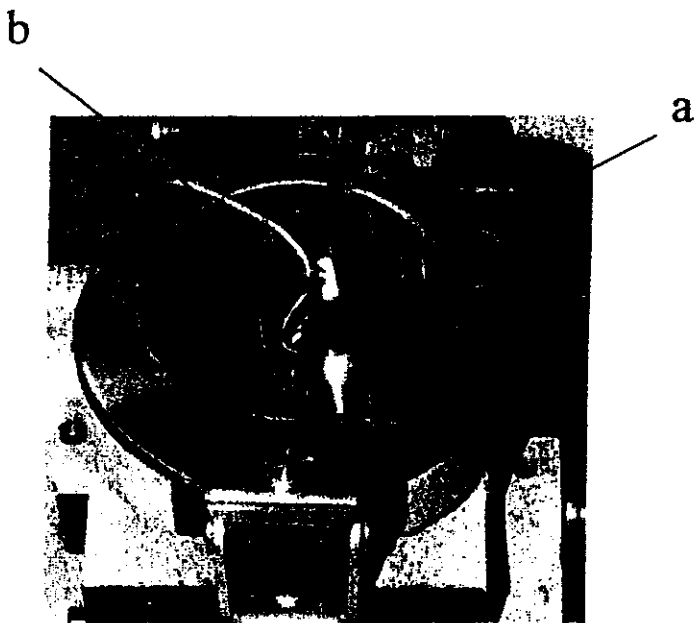

Fig.1
- Press spring **a**(Fig.1) , the bobbin case spring up and remove bobbin ◦
- Pull bobbin thread through slit beneath spring **b** (Fig.1)and pull thread about over 8 cm ◦